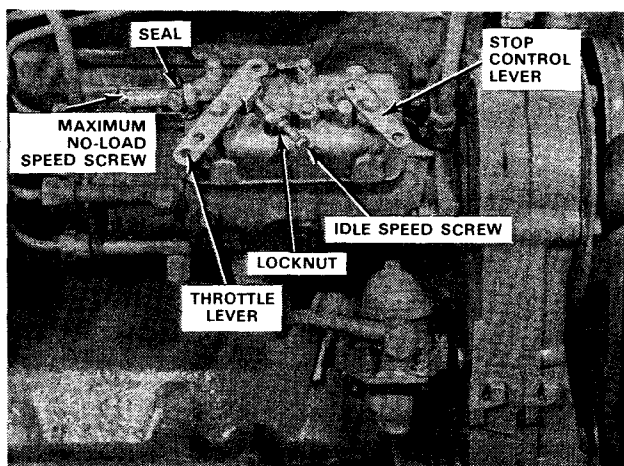

FIG. 18 SSD-327 and SSD-437 Speed Screw Locations
2. With the engine idling, loosen the idle speed screw locknut (Fig. 18 and 19). Adjust the idle speed screw until the engine idles at the specified RPM. Turning the idle speed screw clockwise will increase the idle RPM; turning the screw counterclockwise will decrease the idle RPM. With the engine idling at the specified RPM, tighten the idle speed screw locknut.
2. Increase the engine RPM to maximum no-load speed. If necessary, adjust the maximum speed screw (Fig. 18 and 19) to obtain the no-load governed speed RPM specification.